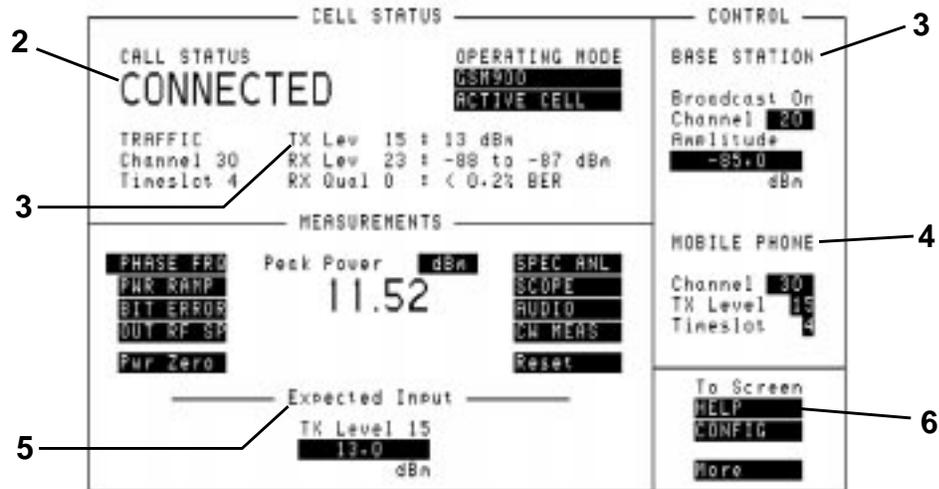

Figure 2-2 Active Cell Mode
This is the default mode after cycling the power or selecting **PRESET**. A functional mobile phone will lock on (camp on) to a signal which is produced by the Agilent 8922M/S. The characteristic of this signal appears in the **BASE STATION** fields, (1), see Figure 2-2 on page 2-6. These fields show the Channel number and the Amplitude of the signal. Once the mobile phone has camped on to the signal, it is possible to make a call between the mobile phone and the Agilent 8922M/S.
The call set-up should now proceed. The **CALL STATUS** field on the screen should display **CONNECTED**, (2), see Figure 2-2 on page 2-6. Once the call has been established, the following information is displayed:
- In the **CELL STATUS** area, (3), see Figure 2-2 on page 2-6, the mobile phone reports its:
You can alter the parameters of the call before the call has been set up, or during a call. They are displayed on the right-hand side of the screen under **MOBILE PHONE**, (4), see Figure 2-2 on page 2-6. The parameters are:
- The **Amplitude** field in the **Expected Input** area of the screen, (5), see Figure 2-2 on page 2-6, automatically adjusts to the nominal value defined by the **TX Level** field. This allows the RF analyzer in the Agilent 8922M/S to align itself with the mobile phone’s expected output amplitude. If the signal is not within 3 dB of the expected amplitude, it is necessary to modify the **Amplitude** field so that it is within 3 dB. Directly entering a value in the **Amplitude** field does not change the transmitted level code transmitted to the mobile phone.
There may be many reasons for the measured level not being close to the expected level. The two most likely are that, either, the mobile phone is not operating correctly, or, there is some power loss between the Agilent 8922M/S RF IN/OUT connector and the mobile phone. If you suspect it is the second case, you can compensate the Agilent 8922M/S generator settings and measurement results for external losses or gains. The compensation is carried out in the CONFIGURE screen which is accessed using the **CONFIG** field on the bottom right-hand side of the screen, **(6)**, see Figure 2-2 on page 2-6. Refer to Chapter 4, Screens for further information.